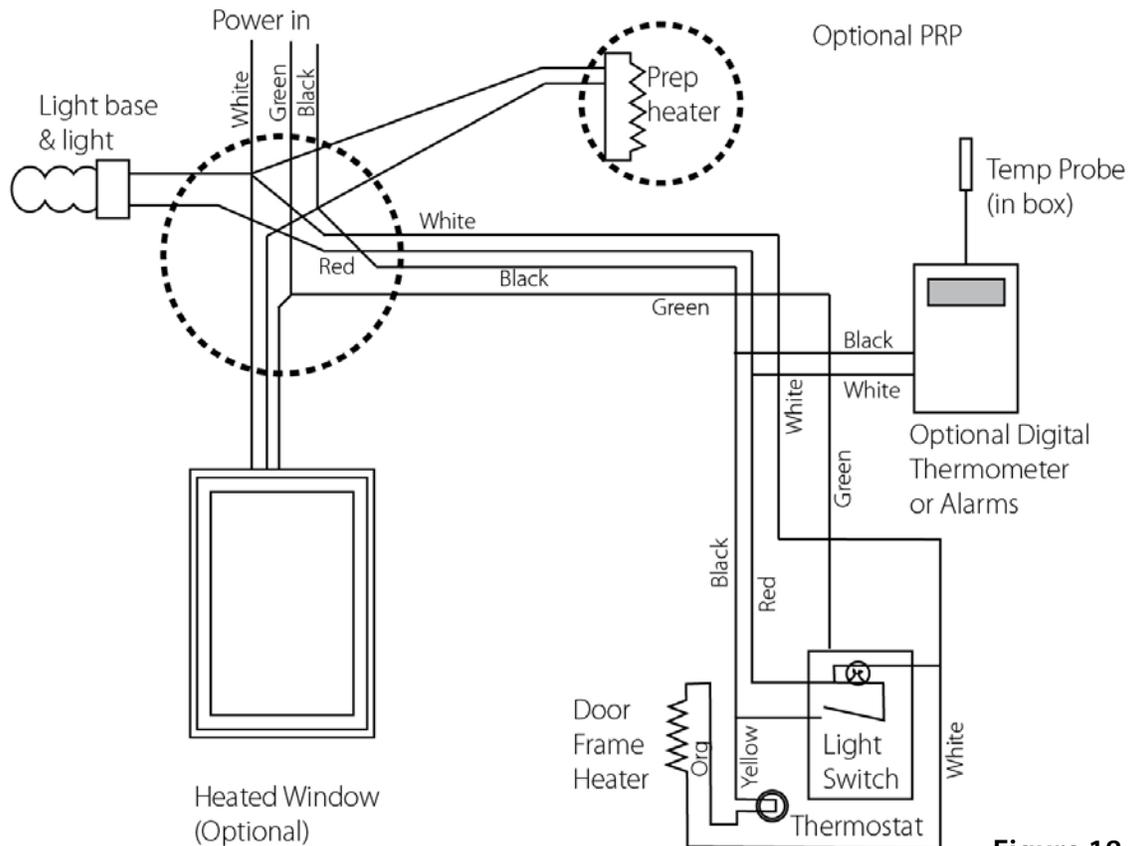

Figure 18
- B. Remove the short wire "pigtailes" and connect the service at the wire nuts, through the hole provided in the junction box. Refer to serial tag for proper electrical characteristics. Insure that the electrical service is properly grounded. See *Figure 18*. Remount the vapor-proof light assembly after all connections have been made. **Do not turn on power to door section until after the refrigeration system has been started.**
- B. Remove the short wire "pigtails" and connect the service at the wire nuts, through the hole provided in the junction box. Refer to serial tag for proper electrical characteristics. Insure that the electrical service is properly grounded. *See Figure 18.* Remount the vapor-proof light assembly after all connections have been made. **Do not turn on power to door section until after the refrigeration system has been started.**